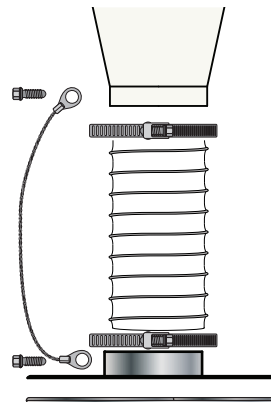

FIG. 22a
● If you purchased the Single Drum setup, statically ground the Drum (L) by attaching the 14" Grounding Cable (E1); Drive the 3/8" Self-Tapping Screw through its eyelet and into the bottom of the Cone (C) just above the installed Flex Hose (J). Repeat using the second 3/8" Self-Tapping Screw on the Lid's Collared Inlet (K). [FIG. 22a].